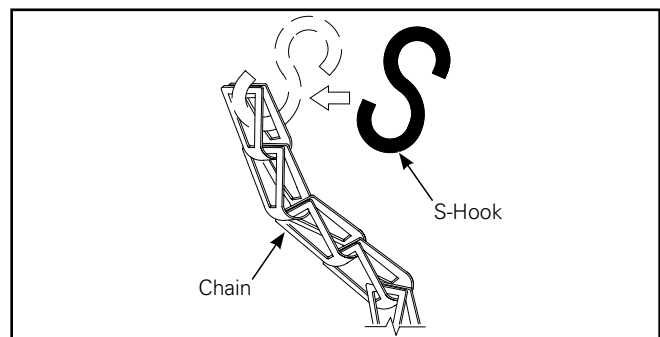

Figure 4.
3. Insert S-Hook through center hole of last link of chain then close with pliers. (Figure 4.)